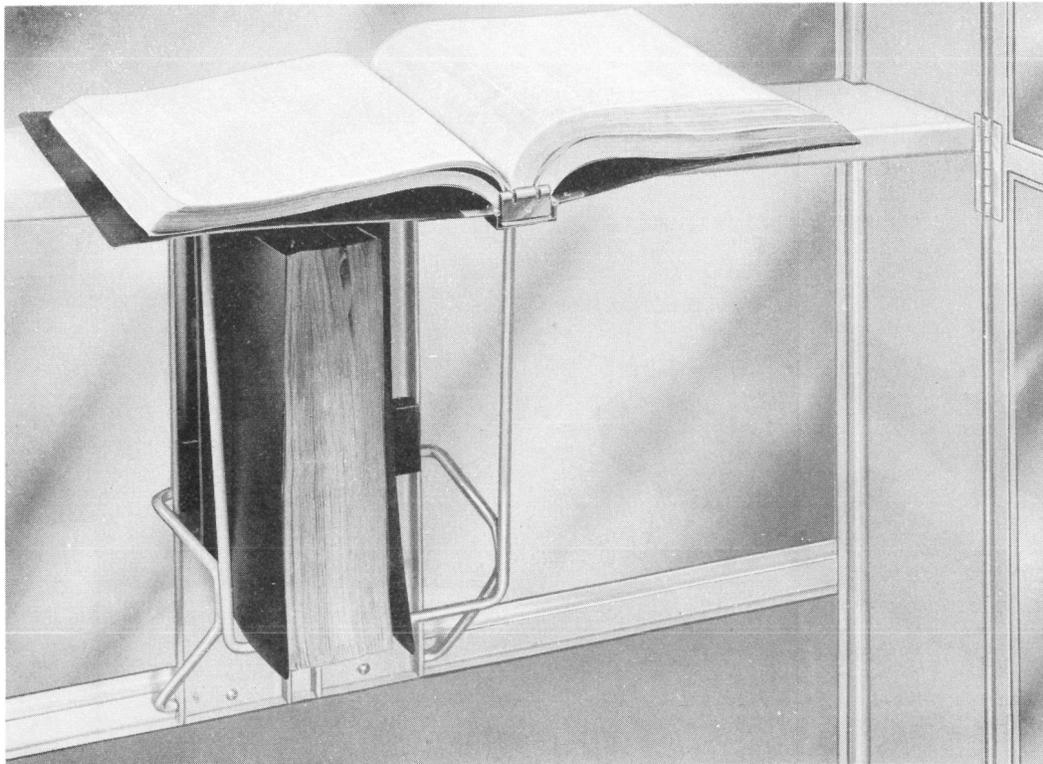

Fig. 18 — Directory Installation Complete in KS-14611 Booth
4.06 Fig. 18 shows a double directory installation. This type of installation may be placed on both the back and side walls for maximum usage of four directories. When only one directory is used, install apparatus blank KS-14611, List 45 to cover empty space.